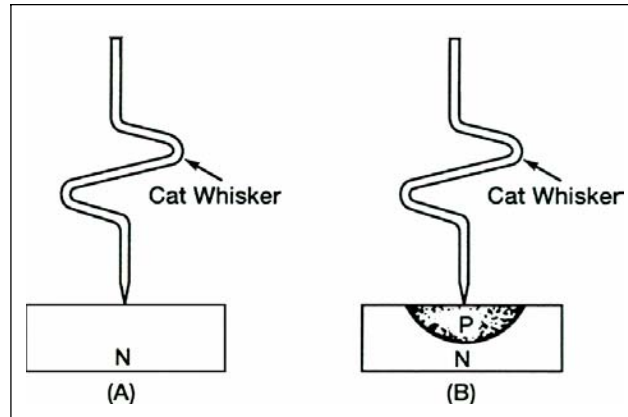

Figure 1-14. Point-Contact Type of Diode Construction
1-59. Figure 1-14 shows a POINT-CONTACT type of construction. It consists of a fine metal wire (called a cat whisker) that makes contact with a small area on the surface of a N-type semiconductor (view (A)). The PN union is formed in this process by quickly applying a high-surge current to the wire and the N-type semiconductor. The heat generated by this current converts the material nearest the point of contact to a P-type material (view (B)).